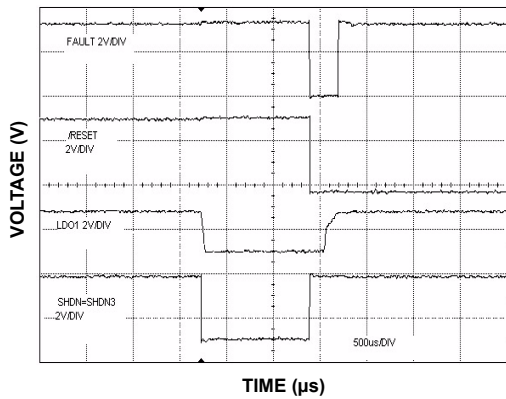

FIGURE 19. SHUTDOWN vs RESET and FAULT
**FAULT** - This is the power good indicator for LDO1. When the 1.8V output is out of regulation ( $>\pm 5\%$ , typ.), this pin goes LOW. This pin also goes LOW during thermal shutdown and any overcurrent event on LDO1. Connect this pin to GND, if unused. This pin remains HIGH in the shutdown mode, as controlled by the SHDN pin (refer to Figure 19).
Driving the SHDN input LOW puts both LDO1 and LDO2 in shutdown mode. Driving the SHDN3 input LOW puts LDO3 in shutdown mode. Pulling the SHDN and SHDN3 pins LOW simultaneously, puts the complete chip into shutdown mode, and supply current drops to 5 $\mu$ A typical. Both SHDN and SHDN3 inputs have internal pull-up resistors, so that in normal operation the outputs are always enabled; external pull-up resistors are not required. During shutdown mode using the SHDN pin, the FAULT output will remain HIGH (refer to Figure 19).
The FAULT pin monitors LDO1 output regulation, as well as fault conditions such as current limit and thermal shutdown. The FAULT output goes LOW, if the LDO1 output is out of regulation by  $\pm 5.5\%$  (typ.). During shutdown mode using the SHDN pin, the FAULT output will remain HIGH (refer to Figure 19).